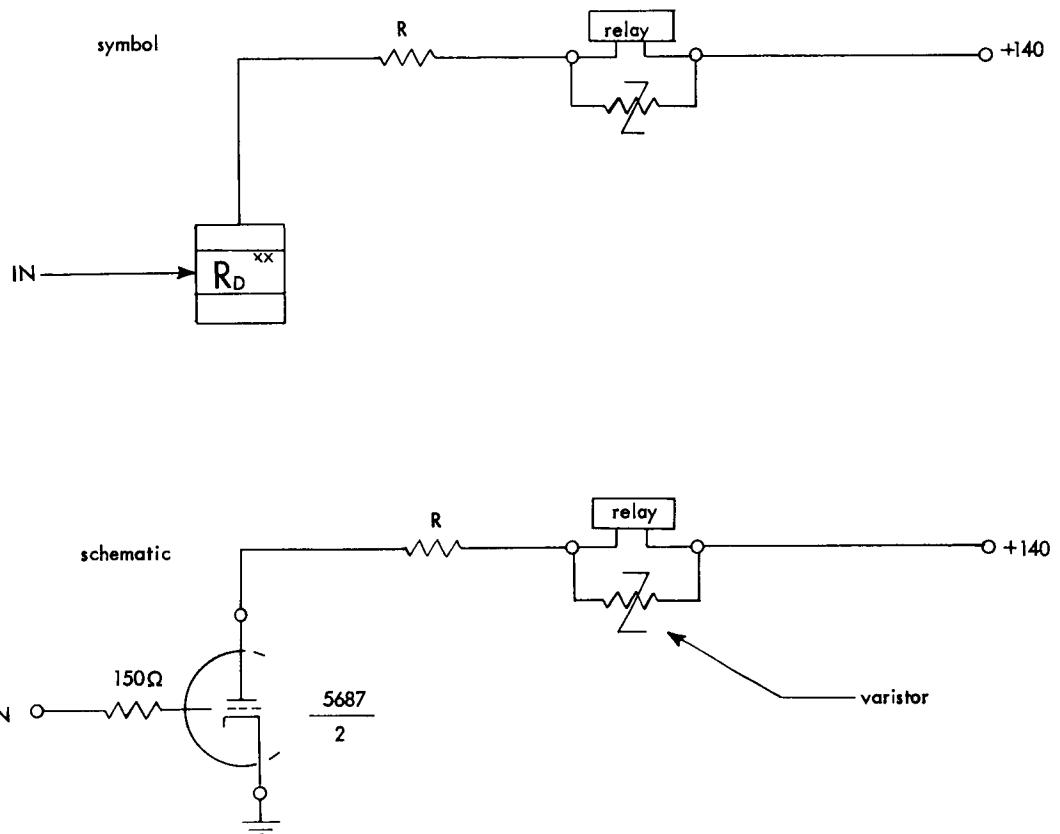

FIGURE C45. RELAY DRIVER --  $R_D$
The relay driver (RD) (Figure C45) is used to supply the current for operation of relays. A load resistor in series with the relay that is to be operated is chosen so that the total load on the RD is not less than 2000 ohms. When the input is brought up, the tube conducts and the relay is picked. An RDX is an RD using a 5965 tube in place